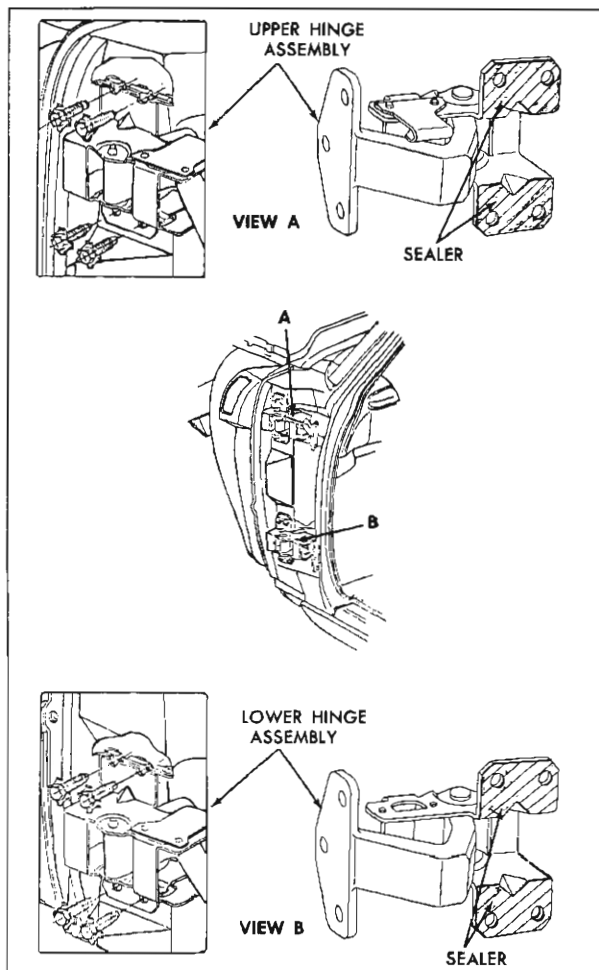

Fig. 12-17 Front Door Hinge Installation
1. As an anti-squeak precaution and to prevent entry of water into body at hinge attaching bolt locations, coat attaching surfaces of hinges with heavy-bodied sealer prior to installing door (Fig. 12-17).